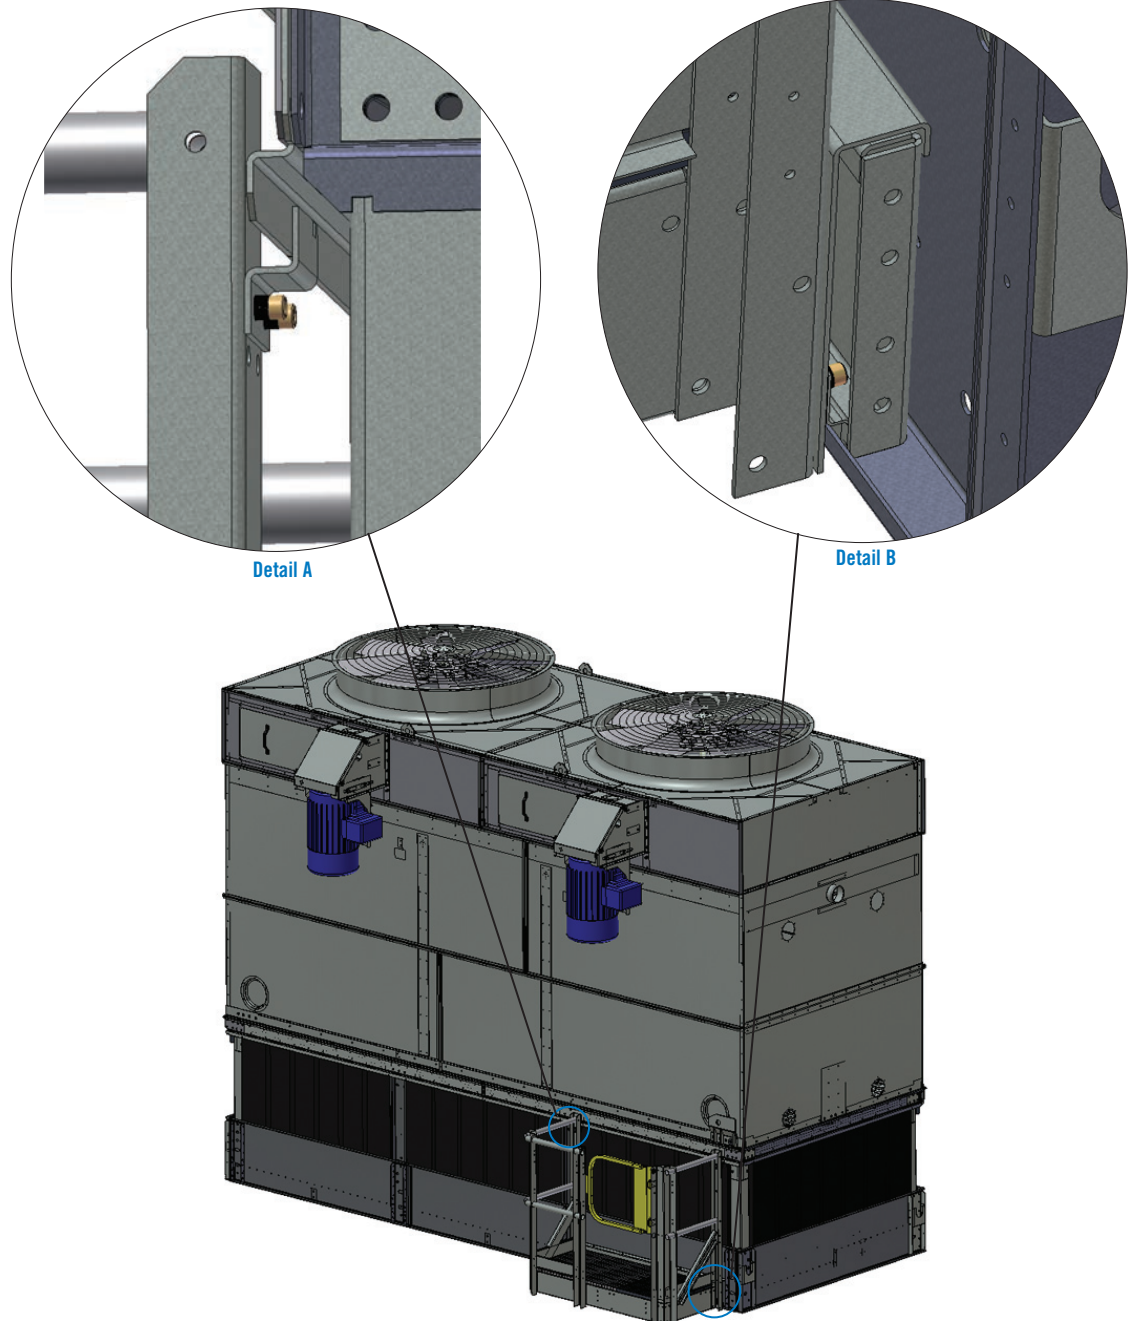

Figure 43. Basin Level Platform Installation
1. Lift the platform into place by aligning the clips at the top of the platform with the flange on the unit just above the louvers, as shown in **Figure 43, Detail A**. Align the clips at the bottom of the platform with the factory installed mounting bracket, as shown in **Figure 43, Detail B**.